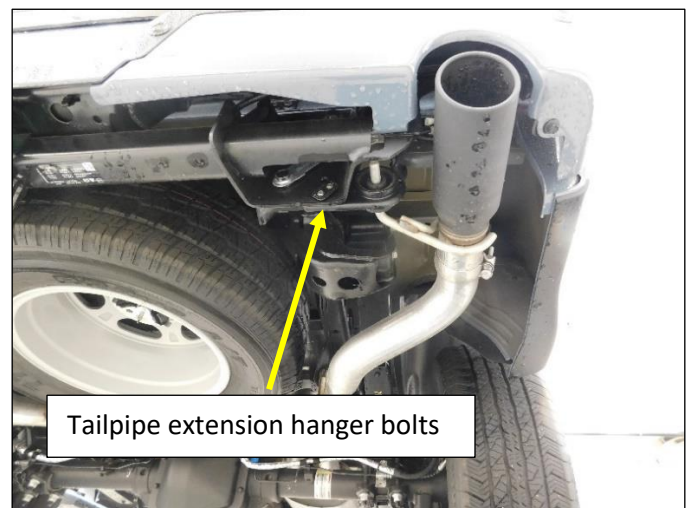

Figure 2
4. Remove the M10 nuts securing the tailpipe extension hanger to the rear frame structure (trailer hitch assembly). **Fig. 2**